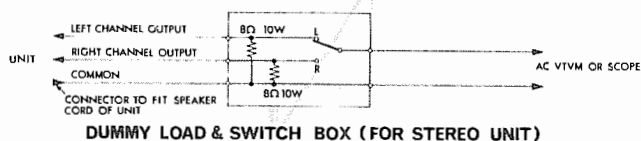

Fig. 3
2. Connect an AC voltmeter (VTVM) across speaker or dummy load (8 ohms, 10W, wire wound resistor) See fig. 3